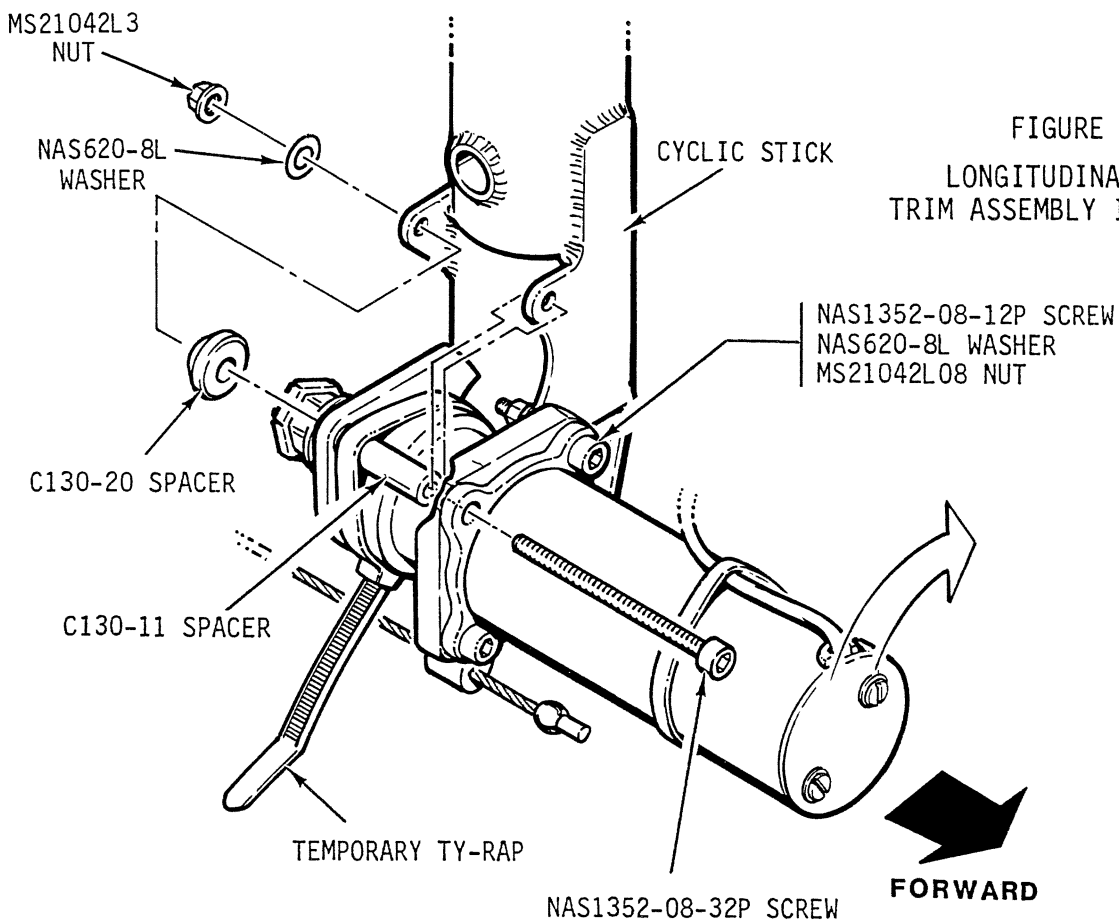

FIGURE 8-4C
- a) Refer to Figure 8-4C. Install trim motor assembly on cyclic stick with NAS1352-08-12P screw, NAS620-8L washer and MS21042L08 nut in lower position and lightly tighten. Pivot motor upward and install NAS1352-08-32P screw, C130-11 spacer (may be secured to motor with ty-rop to ease installation), C130-20 spacer (chamfer pointing aft), NAS620-8L washer, and MS21042L08 nut in upper position. Remove ty-rop used to position C130-11 spacer, if installed. Torque nuts to 20-25 in.-lbs (includes nut self-locking torque).